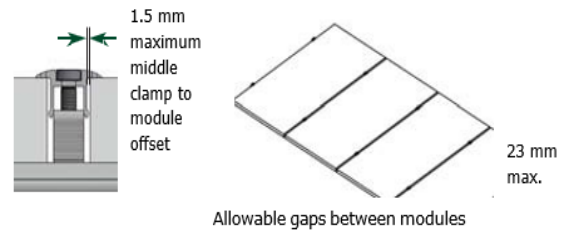

Fig 4.3.2A: Securing middle clamp and PV modules
- I. Verify that the module clamp is fully engaged on the rail and 1.5 mm maximum middle clamp to module offset is aligned with the module frame [Fig 4.3.2A].